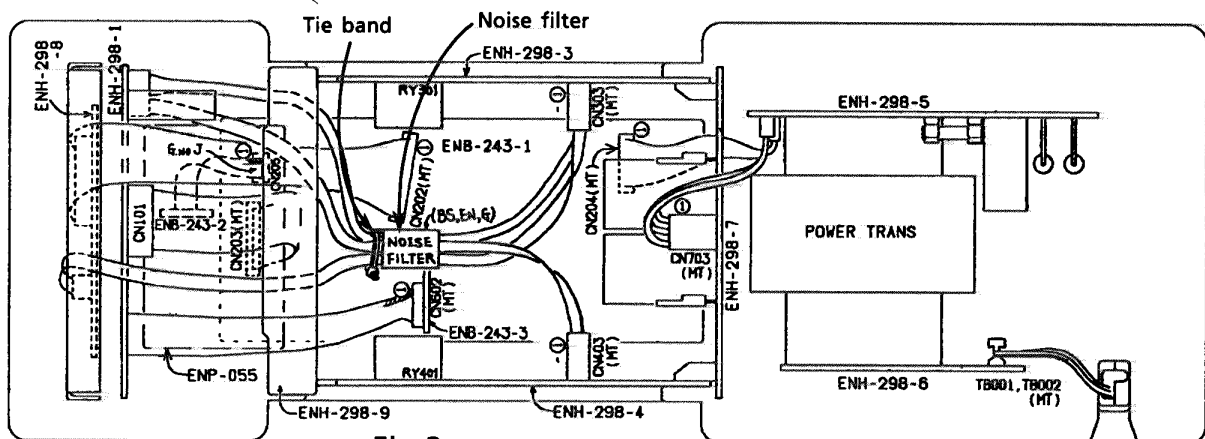

Fig.3
3. Remove the noise filter and tie band. (See fig.3)
The FL PCB is fixed on the back of the ornament with 4 screws. When you must repair the FL PCB, remove the ornament first and then remove the FL PCB. (Fig. 3)